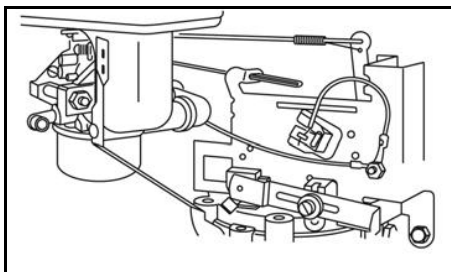

Figure 7
- Figure 7 - Models 280000, 310000, 330000 (Manual Friction).